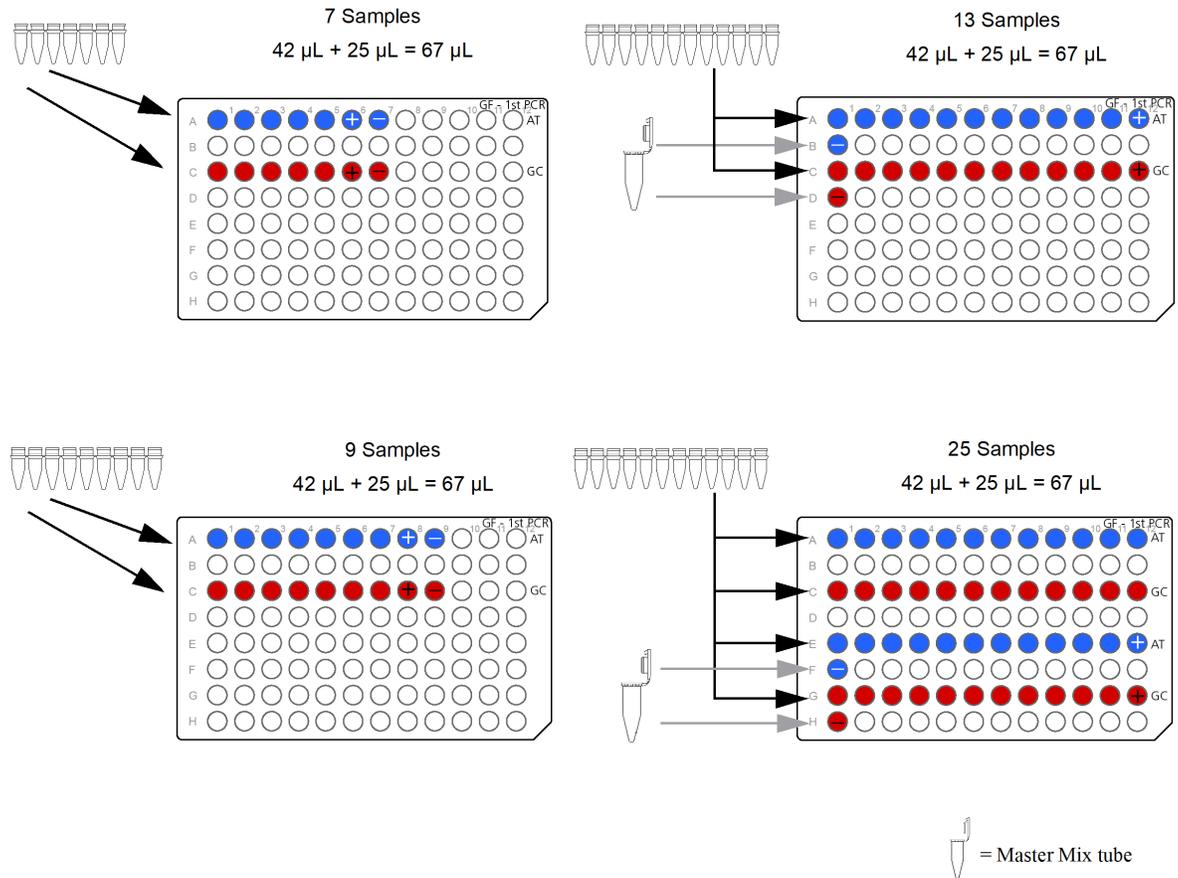

Figure 16 Adding the 1st PCR Master Mix to the 1st PCR Plate.
3. Use a multichannel P200 pipette to add 25.0  $\mu\text{L}$  of the 1st PCR Master Mix to each sample. (Figure 16.)
**Note:** For the 13- or 25-sample protocol, use a single channel pipette to add 25.0  $\mu\text{L}$  of the 1st PCR Master Mix from the “PCR 1” microcentrifuge tube to the Negative Control wells. Pipet up and down 3 times to rinse the tip. (Figure 16.)